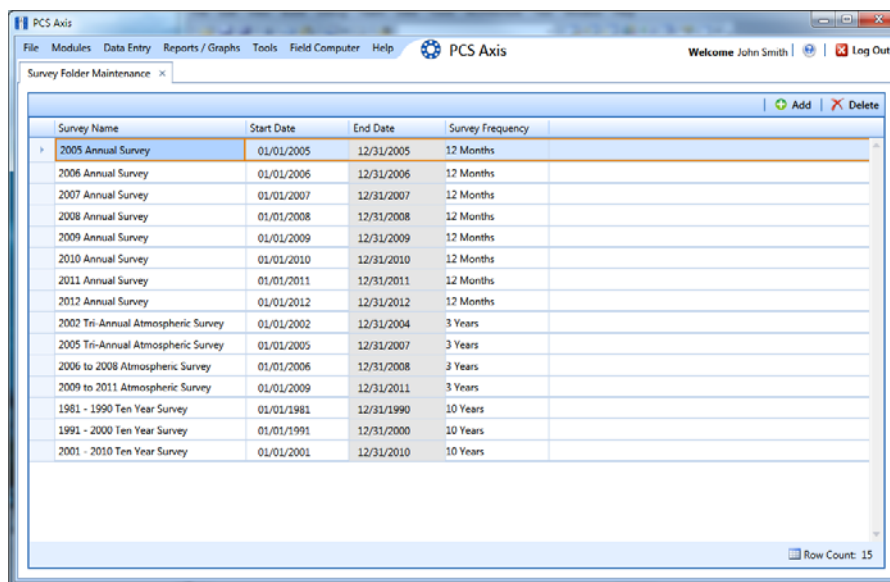

Figure 5-1. Survey Folder Maintenance
Names of facility survey folders typically follow regulatory requirements for surveying pipeline segments and facilities. For example, when you create an annual survey folder labeled *2012 Annual Survey*, you can then assign inspection readings to the facility survey folder throughout the year as they are completed. Names of facility survey folders are editable allowing you to name a survey folder using a naming convention that best suits your business needs. Examples of typical survey folder names include *2012 Feb Monthly Survey* and *2001-2010 Ten Year Survey* (Figure 5-1, page 136).
- 1 Click **Data Entry > Survey Folder Maintenance** to open the *Survey Folder Maintenance* window (Figure 5-1).
- 1 Click **Data Entry > Survey Folder Maintenance** to open the *Survey Folder Maintenance* window (Figure 5-1, page 136).